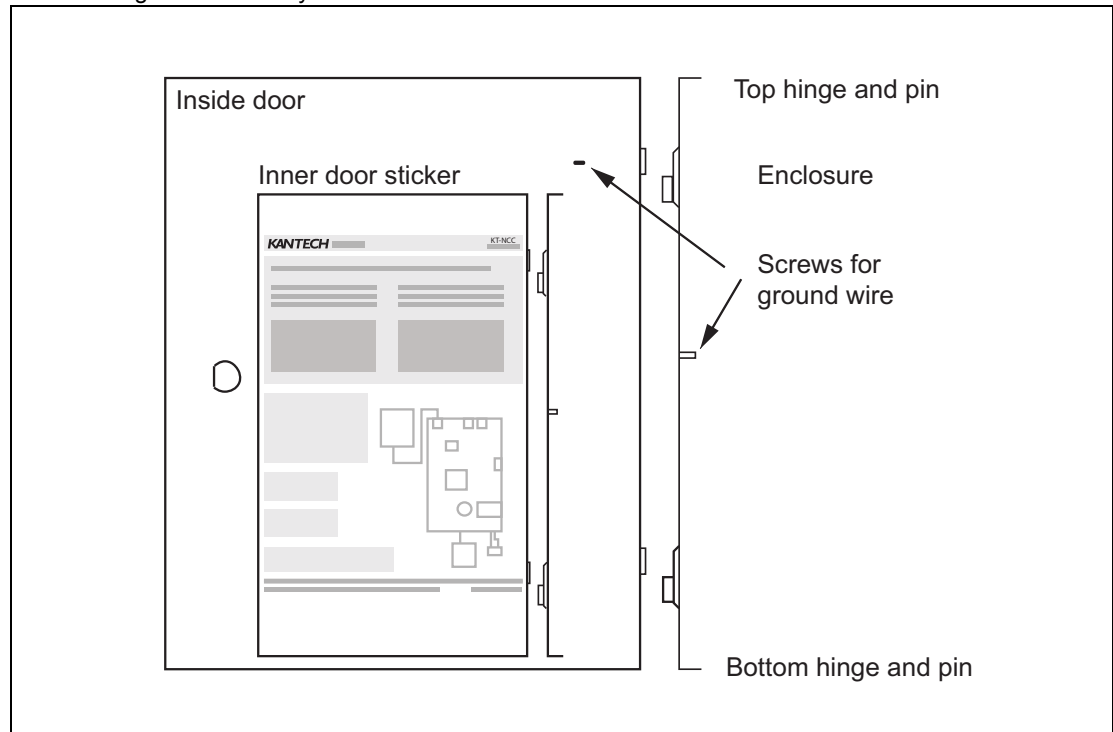

Figure 2: Enclosure Door and Hinges
1. **For KT-NCC UL Cabinet only** - Remove the ground wire from the screw on the door, see Figure 2: on Page 14 below.